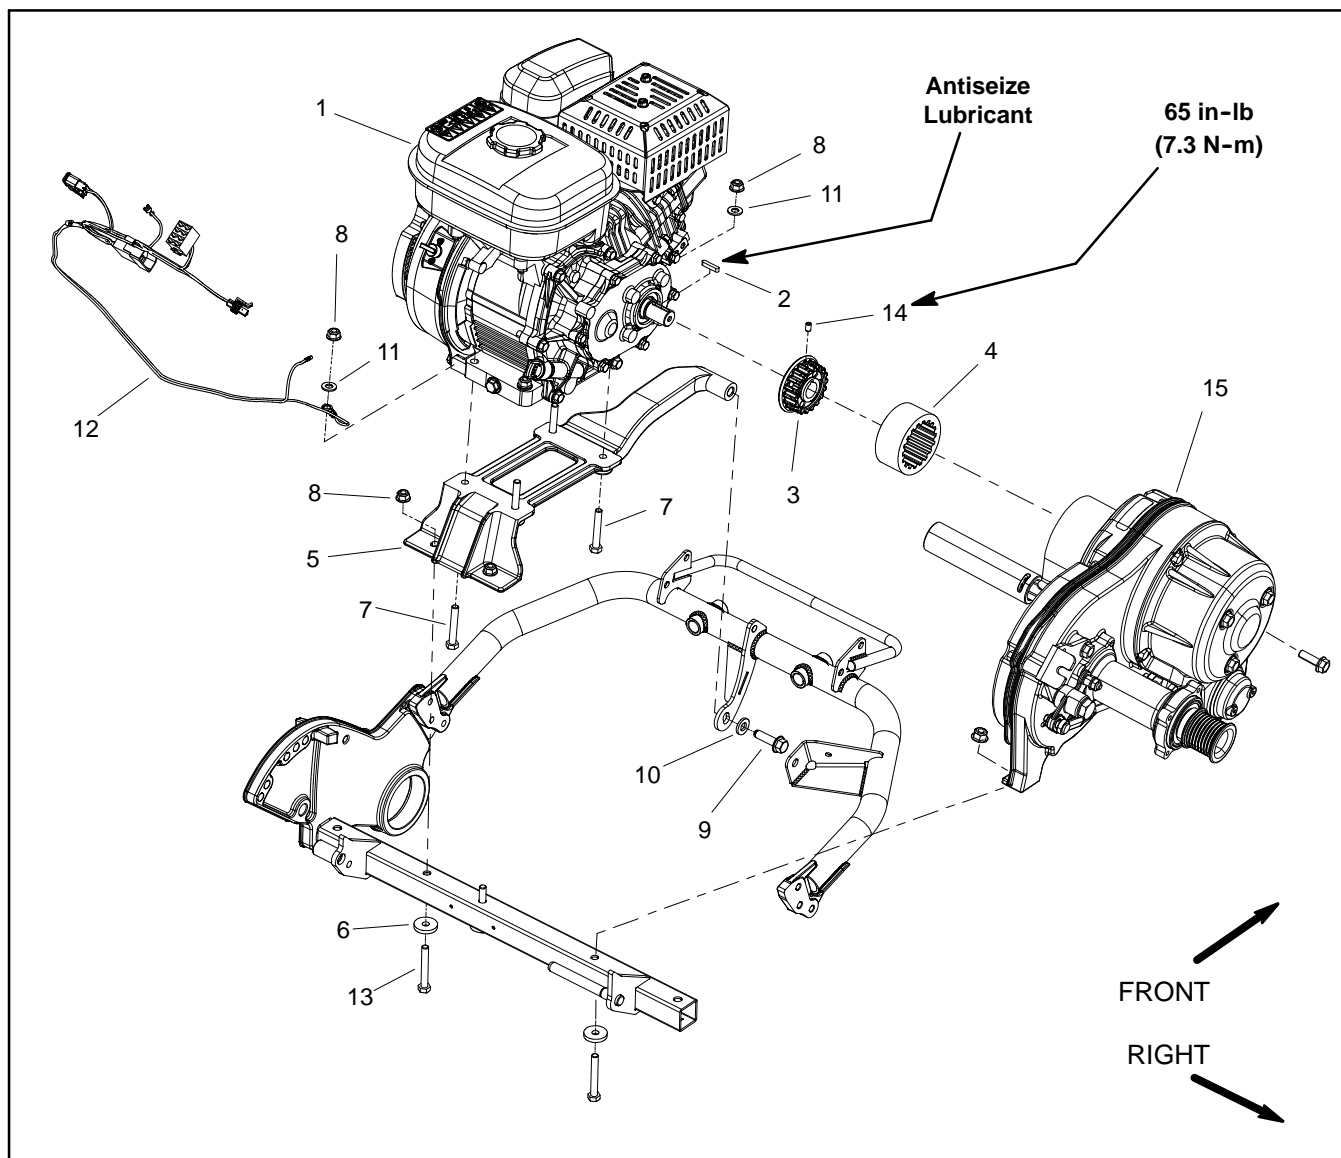

Figure 5
Engine Removal (Fig. 5)
- B. Disconnect wire harness ground wire from engine by removing LH rear cap screw (item 7 in Fig. 5), flat washer (item 11 in Fig. 5) and flange nut (item 8 in Fig. 5).
- A. Remove two (2) cap screws (item 13), hardened washers (item 6) and flange nuts (item 8) that secure rear of engine base to rear frame.
- C. Remove flange head screw (item 9) and hardened washer (item 10) that secure engine base to frame.
- D. Carefully move engine and engine base assembly away from transmission so that engine coupler (item 3) slides out of coupler sleeve (item 4). Once engine coupler is removed from sleeve, remove engine base assembly from machine.
- A. Remove cap screws (item 7), flat washers (item 11) and flange nuts (item 8) that secure engine to engine base.
7. If necessary, remove two (2) set screws (item 14) that secure engine coupler (item 3) to engine output shaft. Slide coupler from shaft. Remove square key (item 2) from engine output shaft keyway.
Engine Installation (Fig. 5)